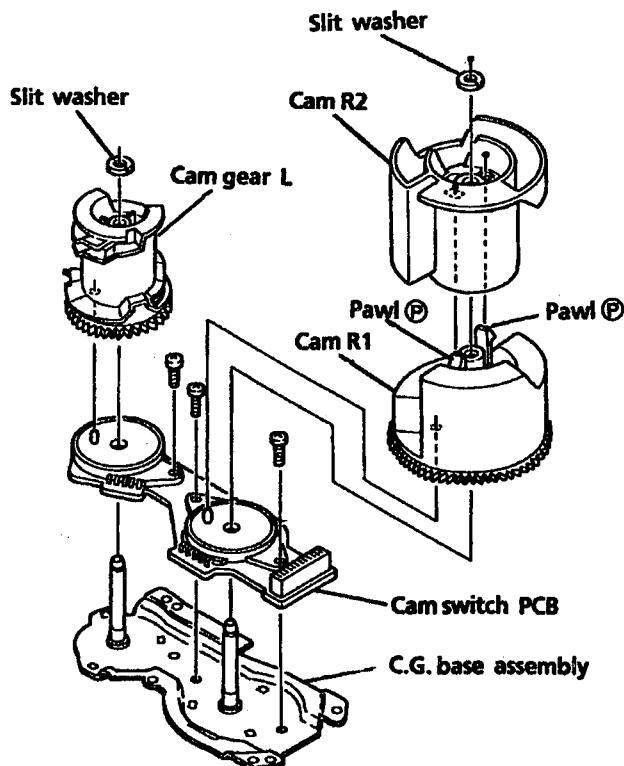

Fig. 41
(See Fig. 41.)
Remove 3 screws ② securing the C.G. base ass'y. (See Fig. 41 and 42.)